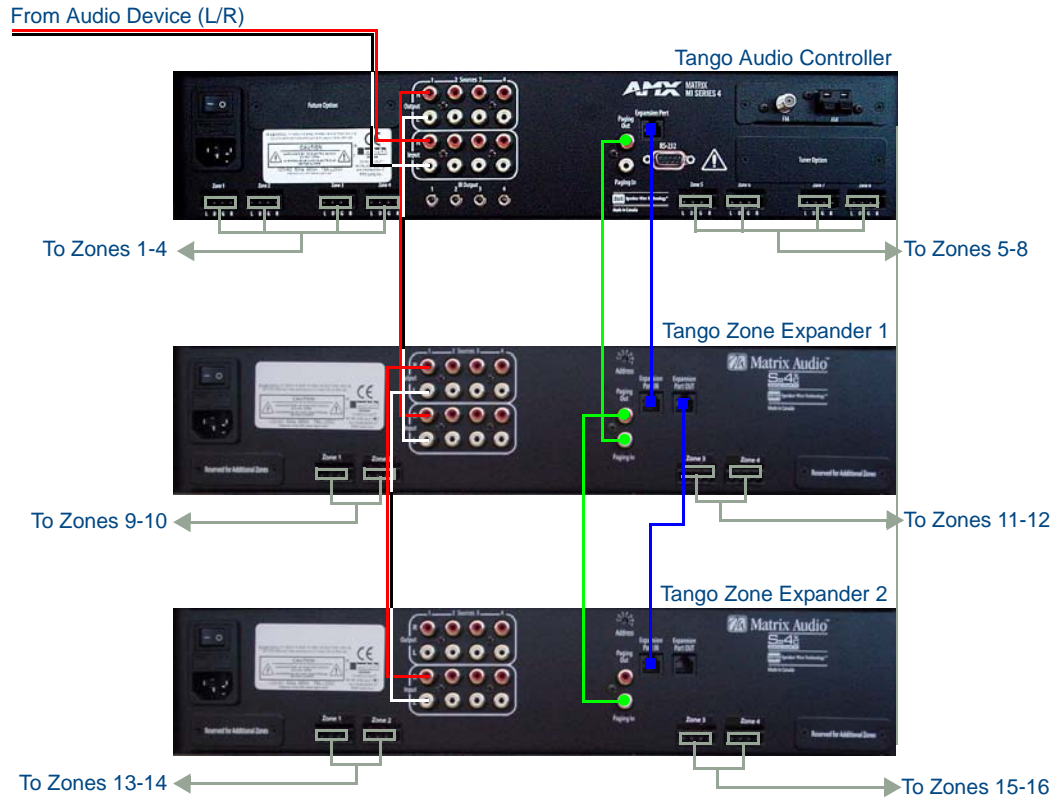

FIG. 10 Connecting the Tango Controller to Zone Expanders
FIG. 10 provides a wiring diagram illustrating the connections between the Tango Audio Controller and multiple Tango Zone Expanders:
1. Connect the RJ-11 jack labelled "Expansion Out" on the Tango Controller to the RJ-11 jack labelled "Expansion Port In" on the rear panel of the Zone Expander. This connection provides the Tango Controller with the ability to control the Zone Expander (see FIG. 10).
2. Set the Address switch on the rear panel of the Zone Expander to "1" if the Zone Expander services zones 9 – 16, set to "2" for zones 17 – 24 and so on until all seven Zone Expanders are utilized (see FIG. 10). Refer to the *Zone Expander Addressing* section on page 11 for further details.
4. Paging Inputs are for Phone Systems or Communications Boxes. If the paging override is used, connect the paging output loop from the Tango Controller to the Zone Expander (see FIG. 10).
5. Connect the keypads to the Tango Controller and Zone Expander(s). Following the same wiring code you used at each of the keypad locations, plug each SWT connector into the desired Zone Output connectors on the Tango Controller and Zone Expanders (see FIG. 10).